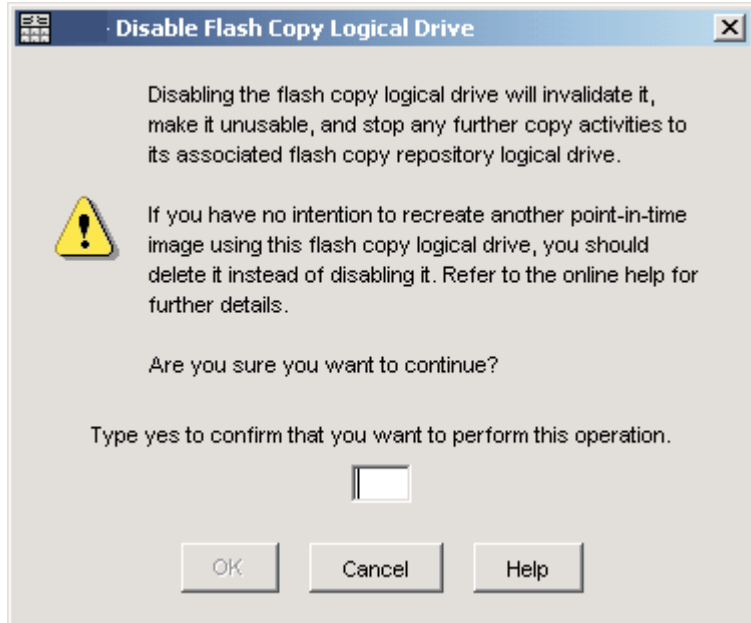

Figure 17. Disable FlashCopy confirmation window
2. The Disable FlashCopy Logical Drive confirmation window opens, as shown in Figure 17 on page 50. In this window, type Yes and click **OK** to begin the disable operation.